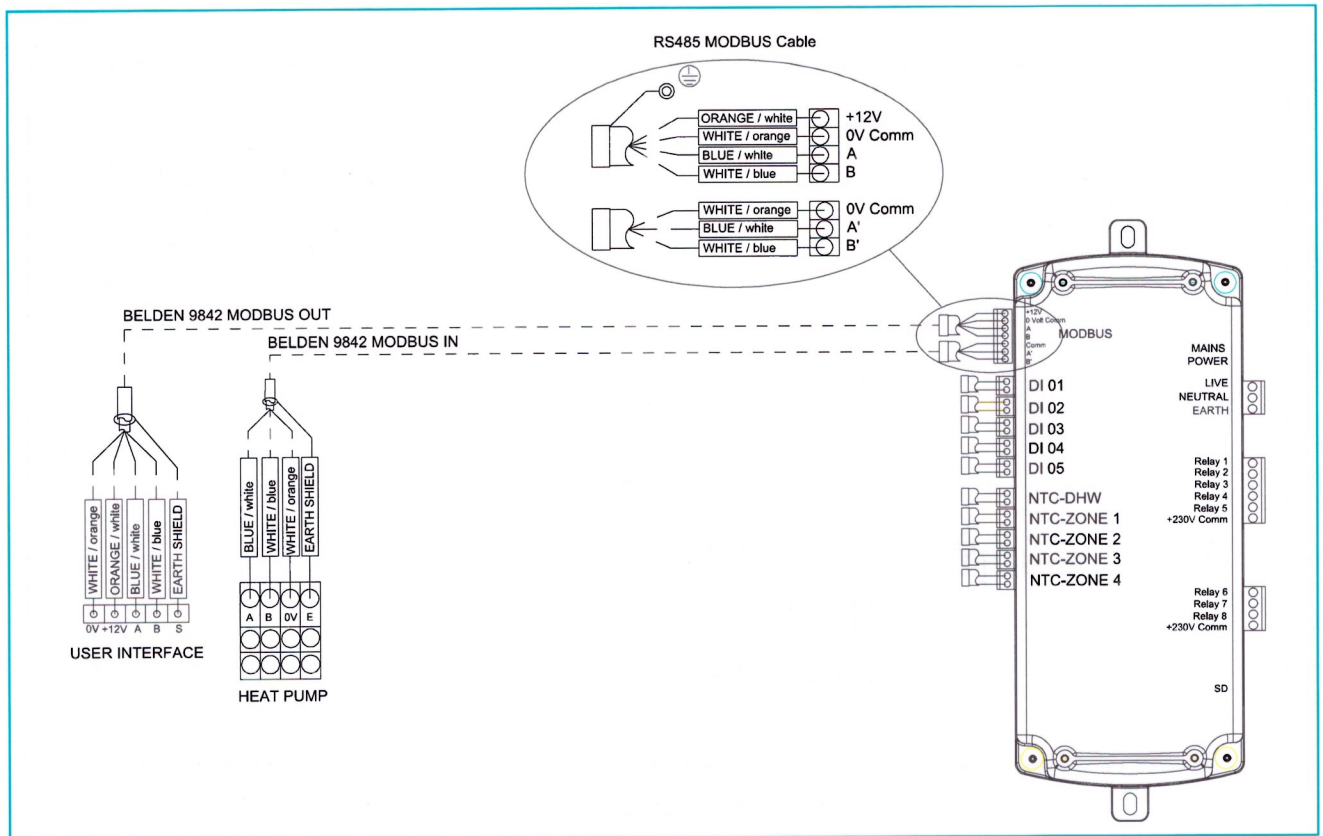

Figure 9: Modbus Communication Connection
- Modbus connection, 5.9.2 The communication cable between the cylinder and heat pump must be installed. See Figure 9.
Correct installation of the Modbus connections is critical for communication between the heat pump, UI and the cylinder. Figure 9 illustrates how these connections must be made. The modbus wire must be specified to BELDEN 9842. The maximum allowable network length is 100m.